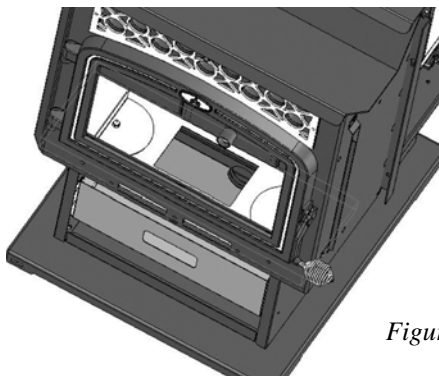

Figure 7
7. Re-install secondary floor panel with narrow edge toward the back, into firebox as shown in Figure 10. Note: When seated correctly, tabs on underside of panel will sit down into square opening in firebox floor. Figure 7.